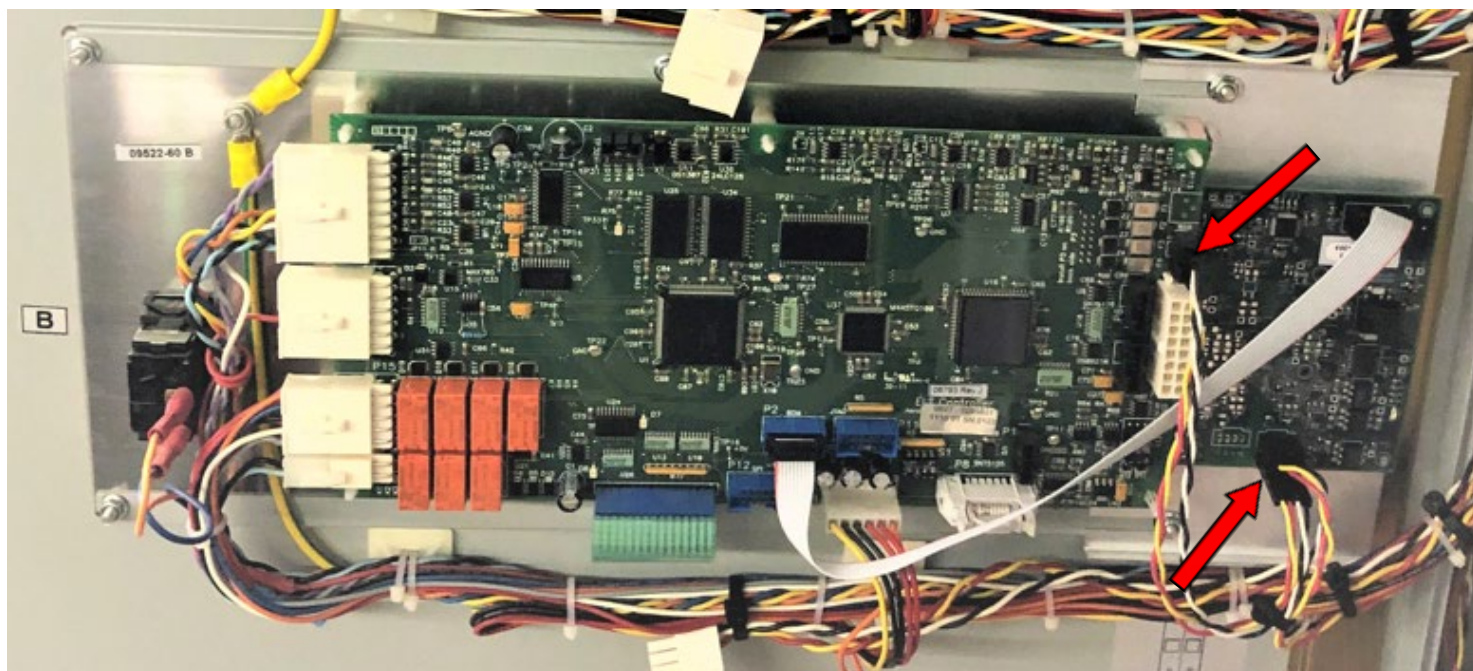

Figure 17 P101 Cable Connected from the J101 Connector on the CAN Board to the J2 Connector on the Channel B of DVS100/DVS150 Control Board
- 4.4.4. Connect the P101 cable from the J101 connector on the Channel B of DVS100/DVS150 CAN board to the J2 connector on the DVS100/DVS150 control board (Figure 17).